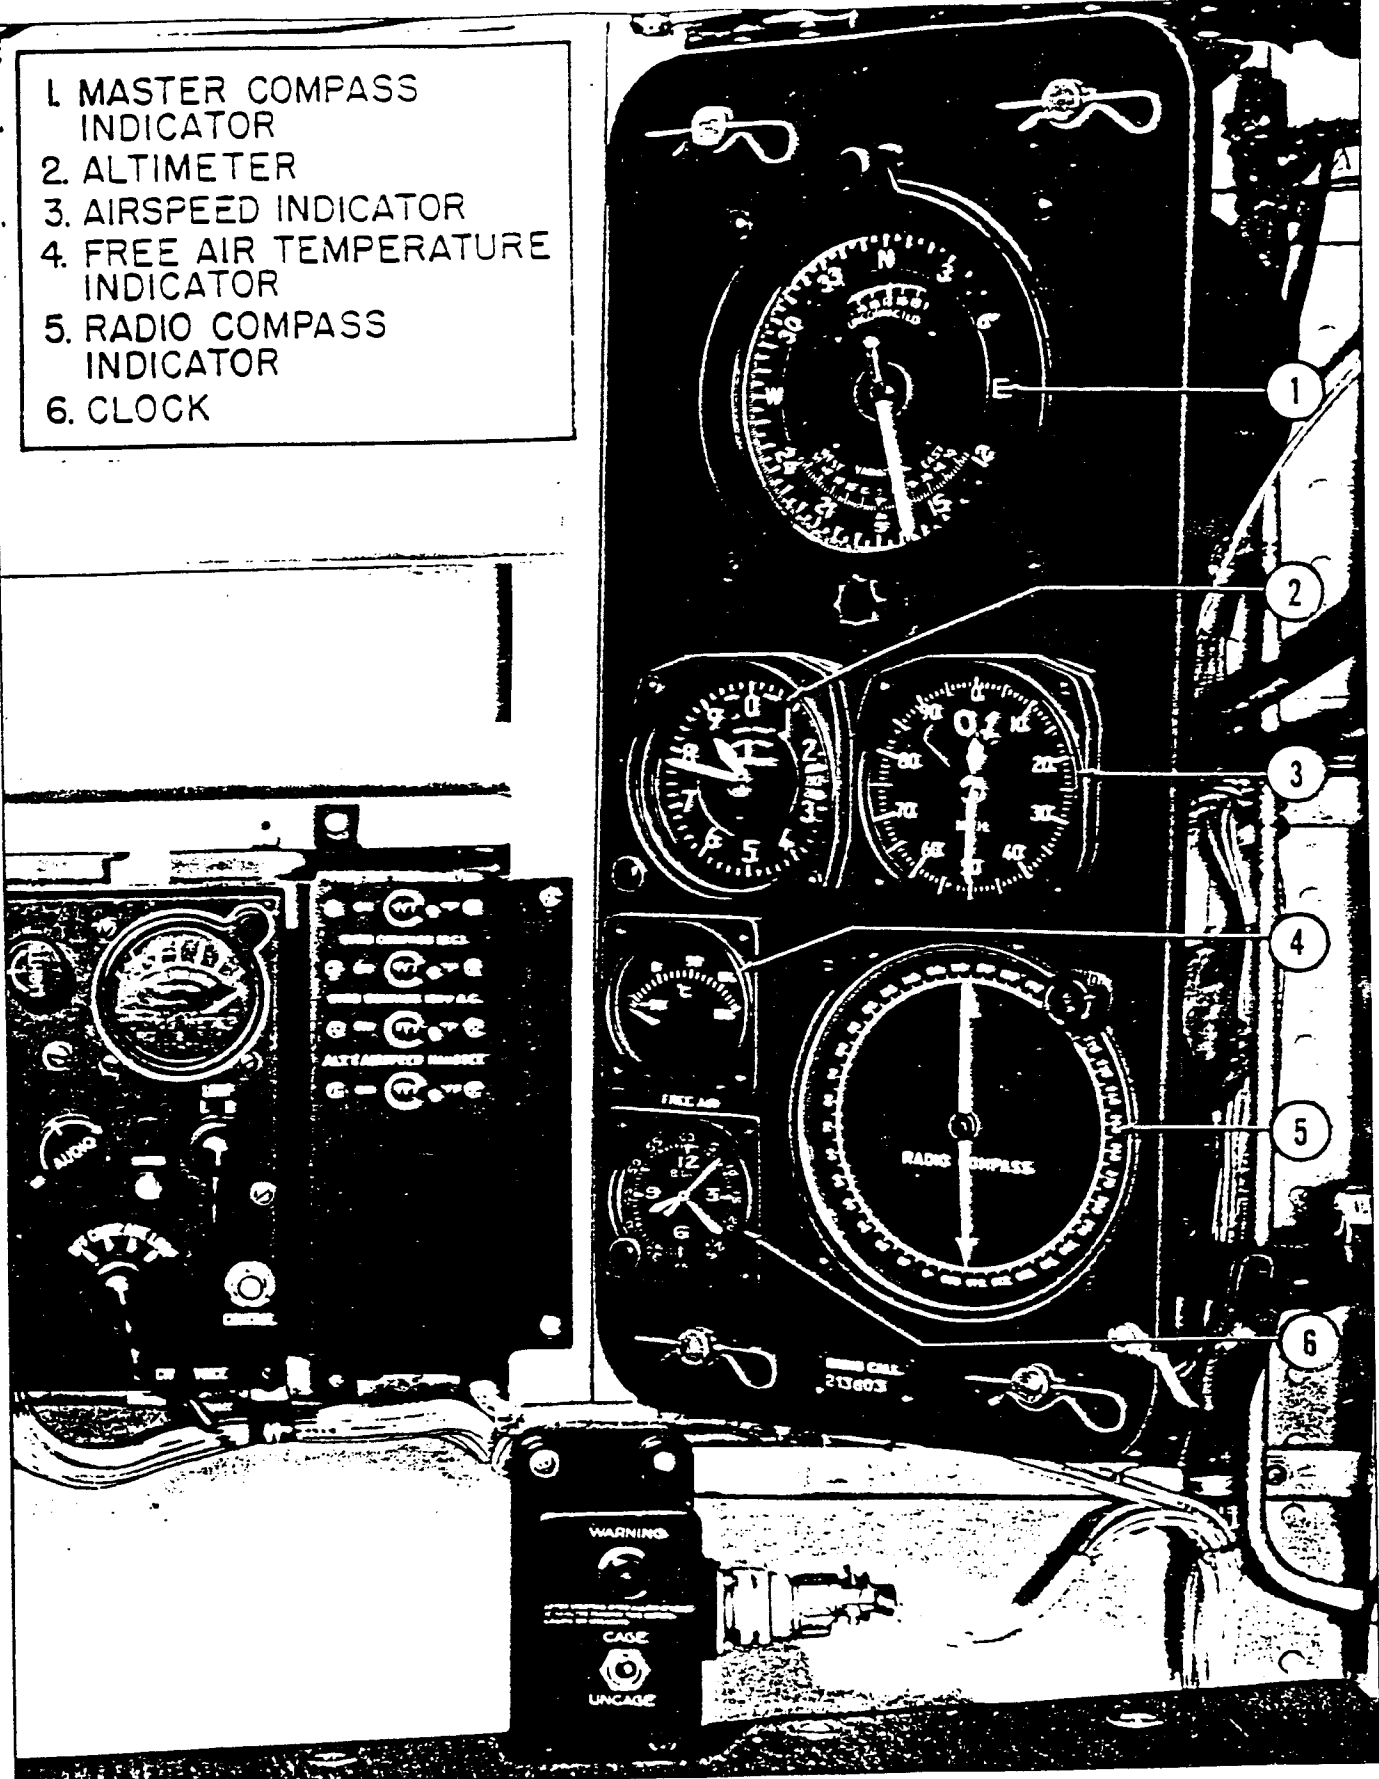

Figure 5. Navigator's Instrument Panel
(4) NAVIGATOR'S INSTRUMENT PANEL (See figure 5.)